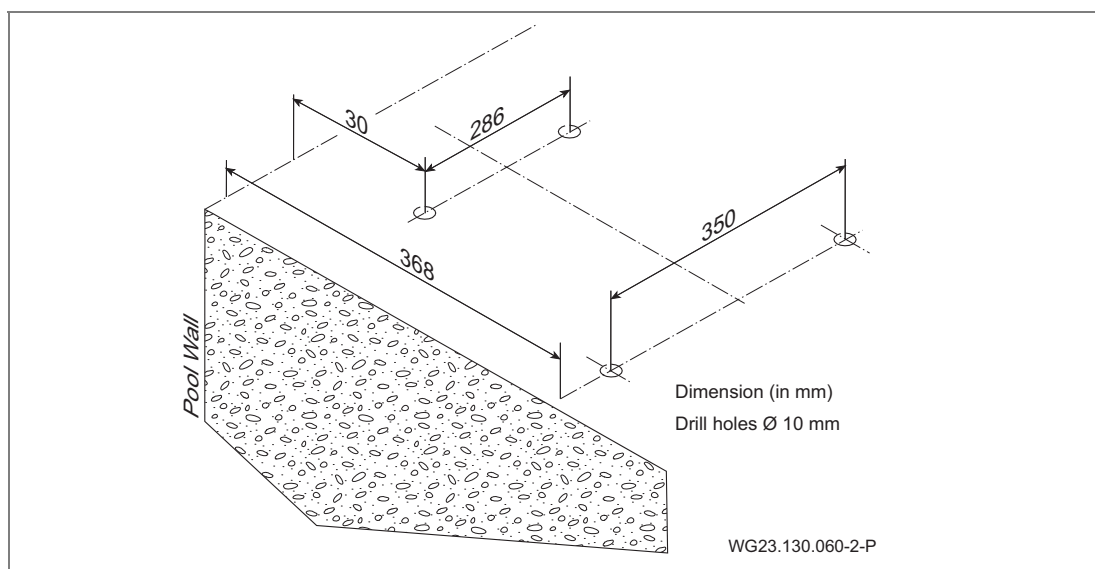
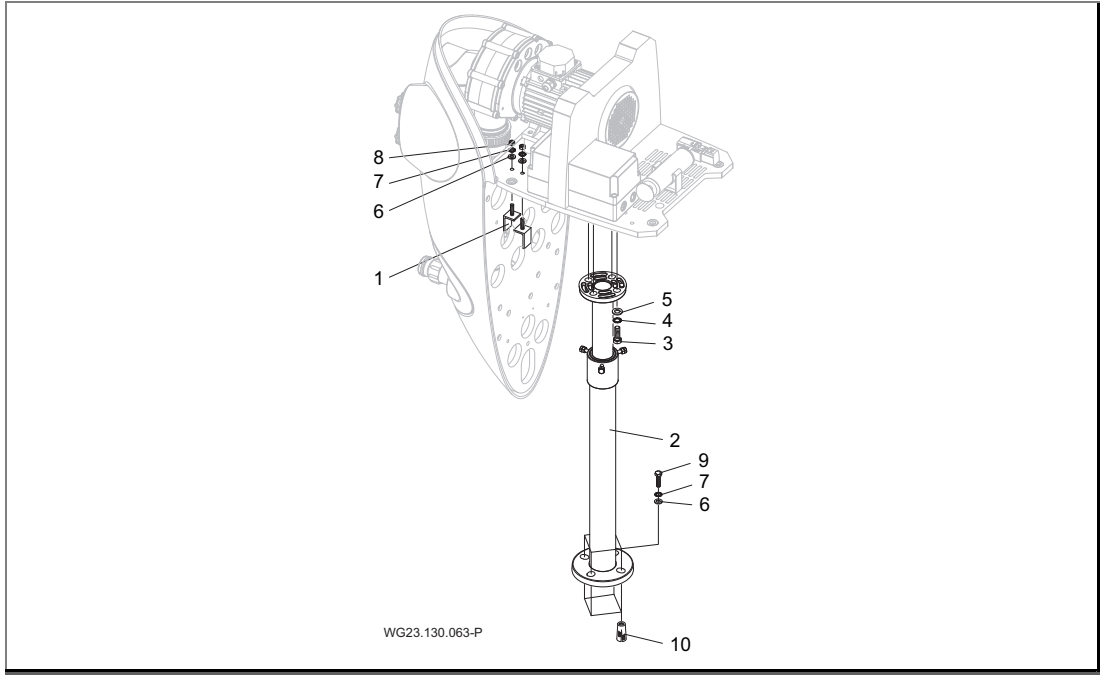

Fig. 4
Fig. 5
- Select the assembly site and prepare it in accordance with Fig. 4. If the unit is being used in an above ground pool, the telescopic support foot must be used, for attachment instructions See "Fig. 5" on page 20.
- Lift the unit and drill the Ø10 mm holes on the markings. See "Fig. 4" on page 19